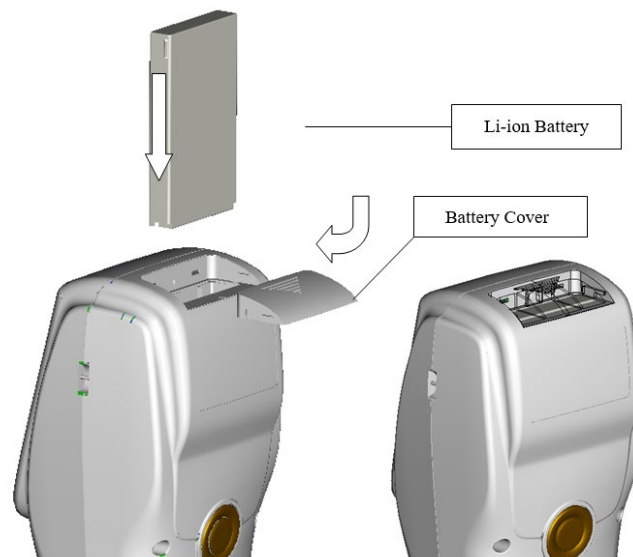

Figure 2 Battery Installation
3. Put the battery cover on Li-ion battery, and then push it up as shown in Figure2.